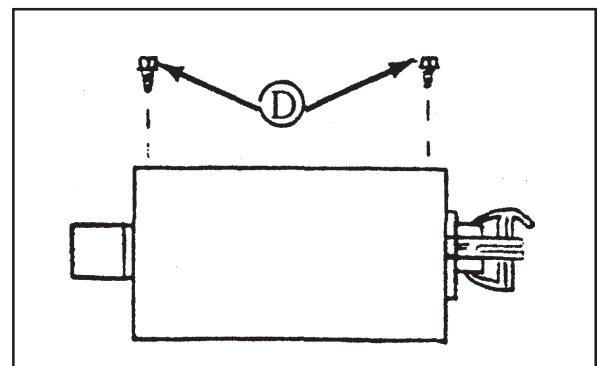

Figure 4.3
5. Remove screws (D) from top of burner housing and pull out main burner (See Figure 4.3).